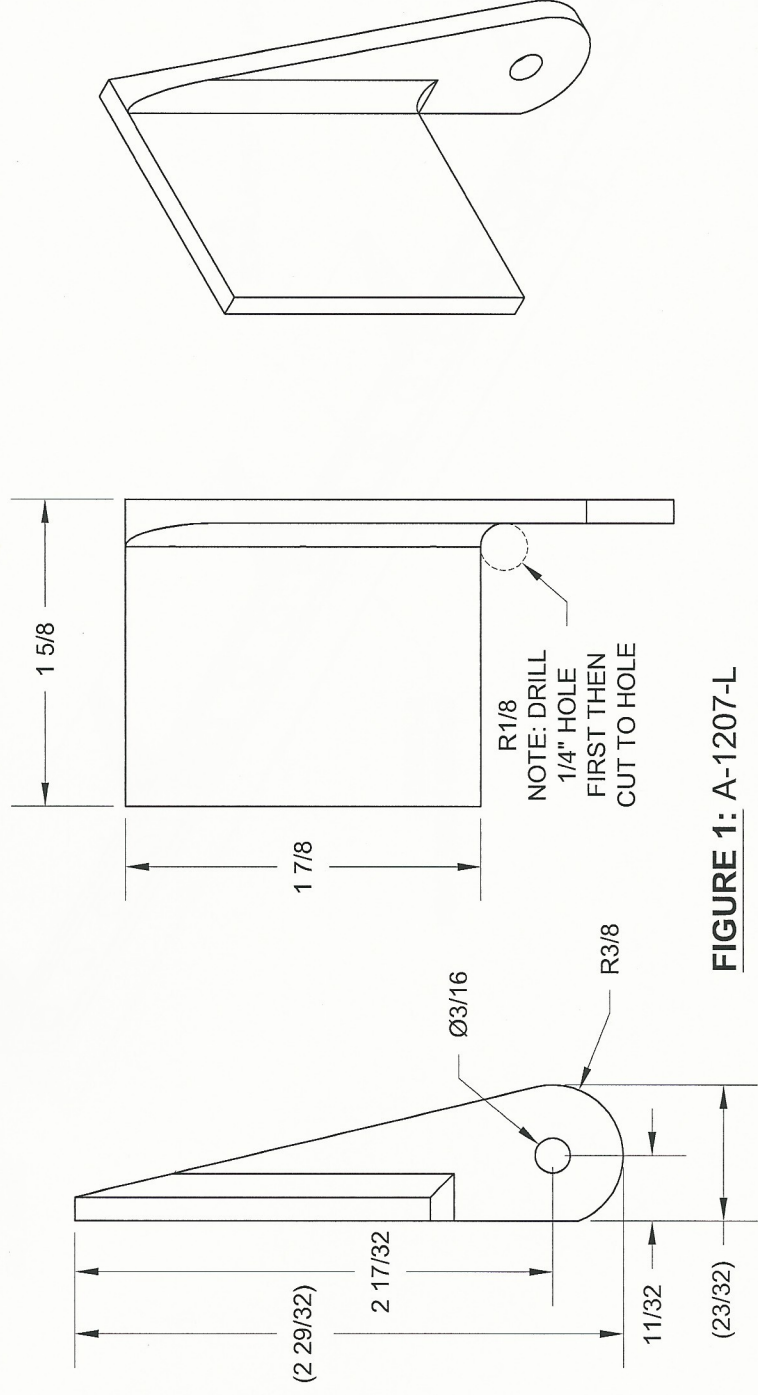

FIGURE 1: A-1207-L
Step 1: Make the A-1207-L Actuation Bracket from AA6-125 x 1 1/2 x 2 x 10 as shown in Figure 1.